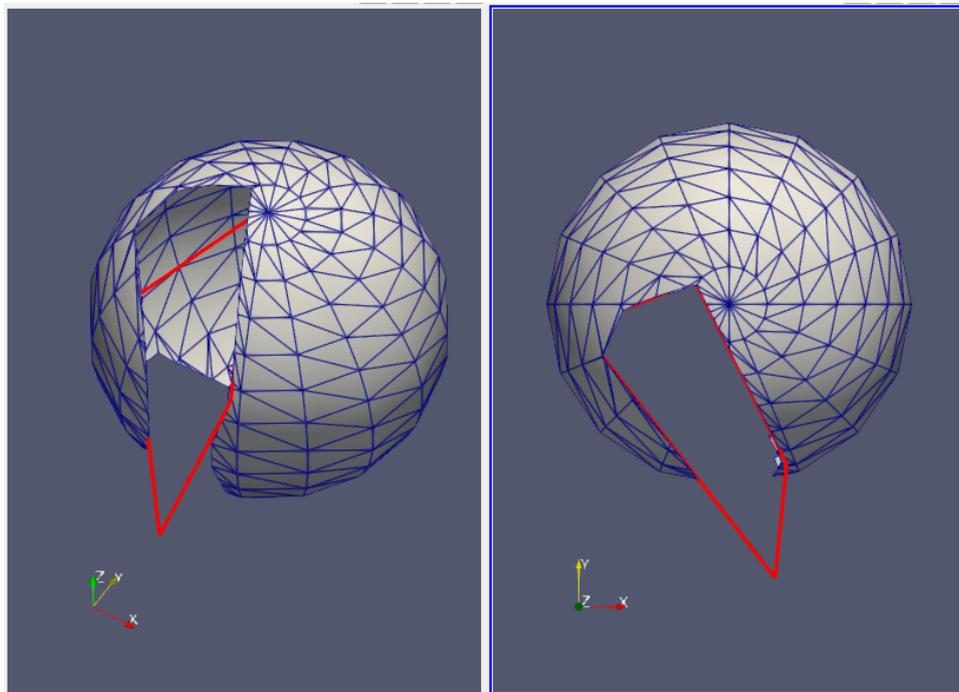

Fig. 2.49: Clipped the sphere with a boundary line results in a “cookie cutter” effect along the Z axis.
- The same thing with the **Clip cells** option turned on: Fig. 2.49.